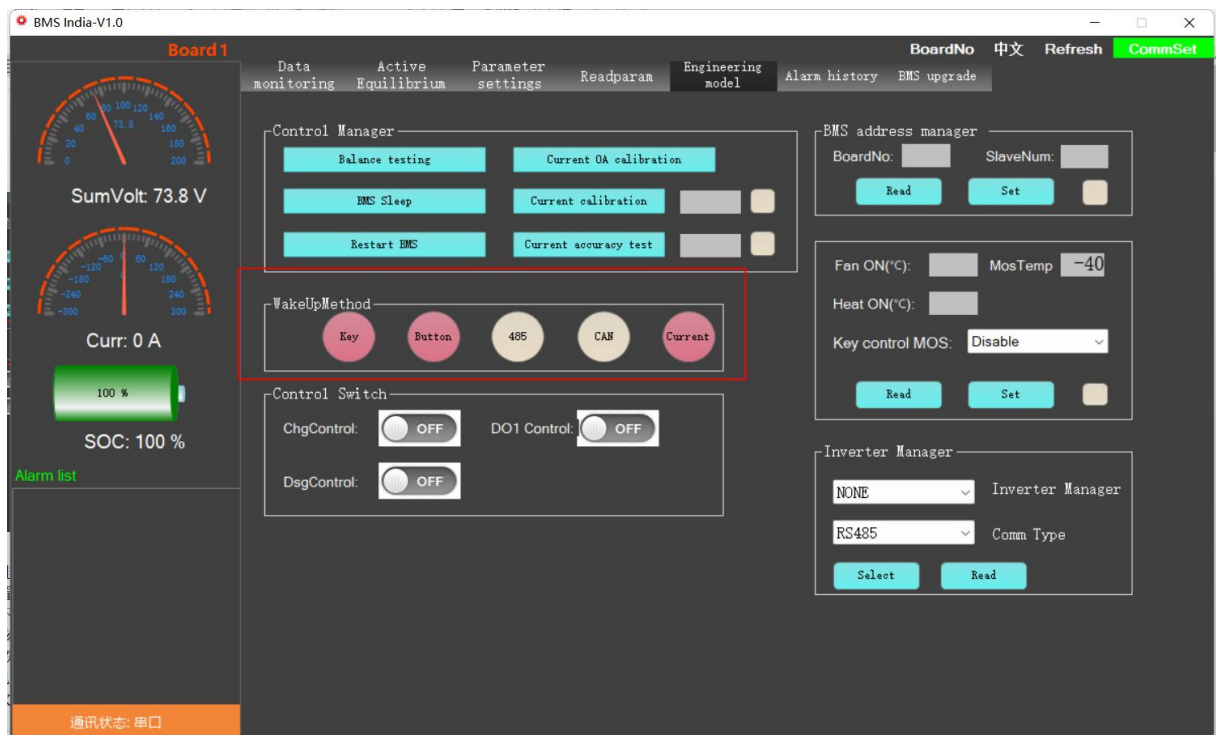

Figure 2-4 PC Master wake-up source
(2) **Sleep time.** The sleep time is set to the number of seconds that the BMS waits to enter the low-power mode, that is, sleep, when there is no wake-up source. The wake-up source can be seen in "engineering mode", and the light is on to indicate that there is a wake-up source. As shown in **Figure 2-4**, it means that there is no wake-up source at present.